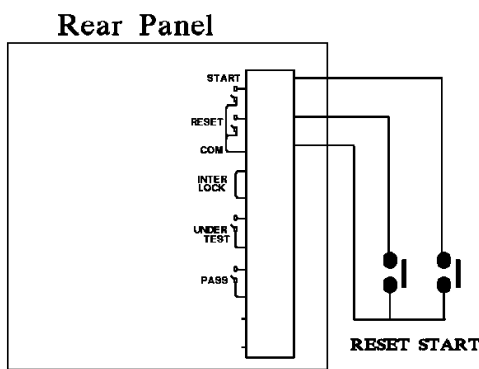
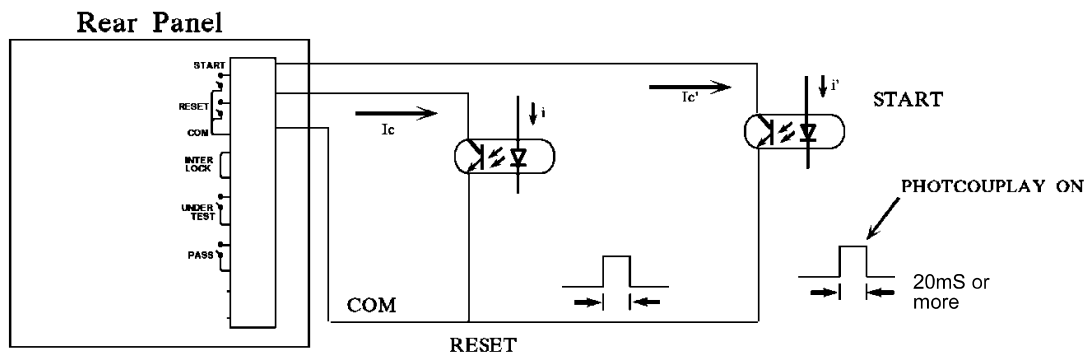

Figure 2-1
Figure 2-3
- For single control of START and RESET signals follow *Figure 2-1* listed below to connect them to the REMOTE position on the system back panel.
- Either the relay switch control in *Figure 2-1* or the coupler control in *Figure 2-3* uses the contact of components for control action. It can prevent the error operation from interference effectively. Though the system has a lot of precautions, you would still need to watch out the interference caused by the measurement system settings.